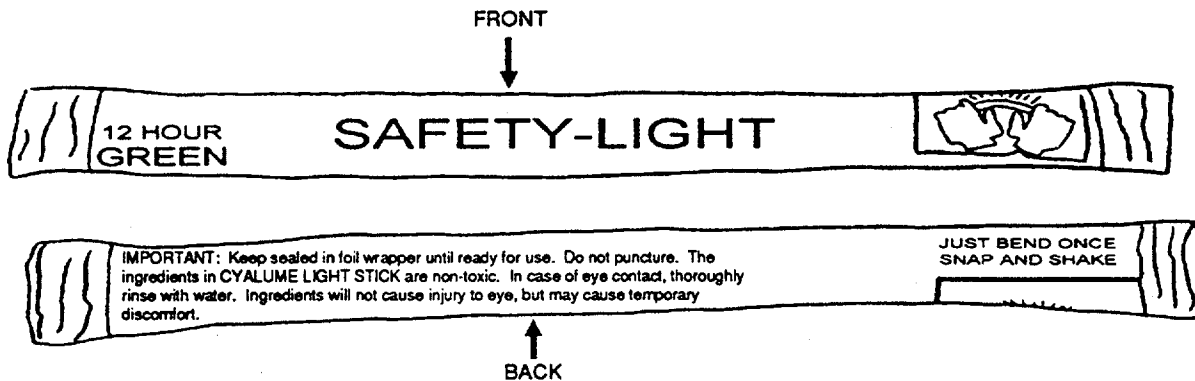

Figure 2-2. Chemical Light Wands
b. Chemical Light ("chem-lite") Wands. The chemical light wands are to be used at night for signaling and lighting. Movement at night is not recommended unless it is a combat situation. If this is the case, the light must be shielded. Failure to shield may reveal your position to the enemy. The "chem-lite" consists of two parts -the outer plastic shell and the inner glass vial, both containing chemicals. To activate the wand, bend the outer plastic tube until the inner glass vial breaks, shake the wand to mix the two chemicals, and the wand will start to glow. See Figure 2-2.